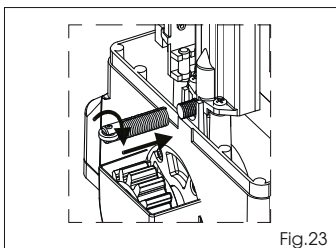
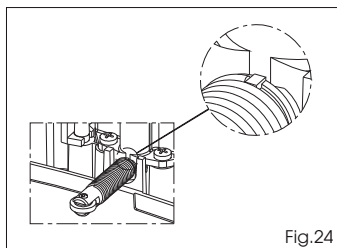

Fig. 23
Fig. 24
- Fit the spring turning it clockwise, Fig. 23, until the stop is reached; see Fig. 24.